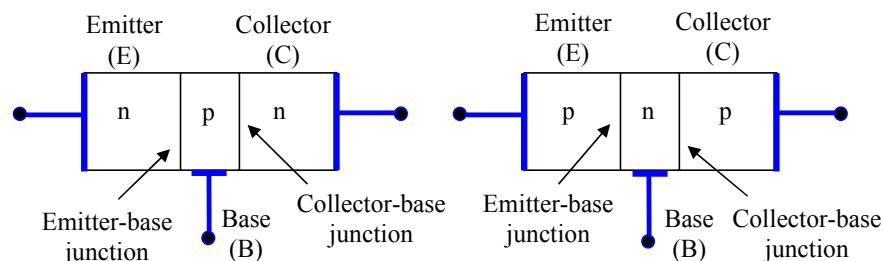

Figure 6.1: NPN and PNP BJTs structures
Each BJT consist of two anti serial connected diode. The BJT can be either implemented as a NPN or a PNP transistor. In both cases, the center region forms the base (B) of the transistor, while the external regions form the collector (C) and the emitter (E) of the transistor. External wire connections to the p and n regions (transistor terminals) are made through metal (e.g. Aluminum) contacts. A cross section of the two types of BJTs consisting of a emitter-base junction and a collector-base junction is shown in Fig. 6.1.